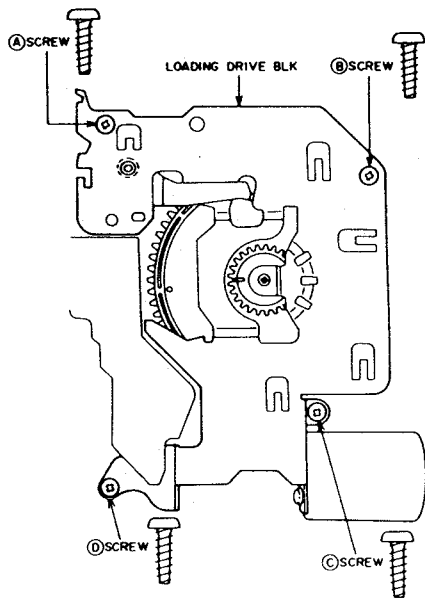

Fig. 3-15
2) Install the LOADING DRIVE BLK as shown in Fig. 3-15.